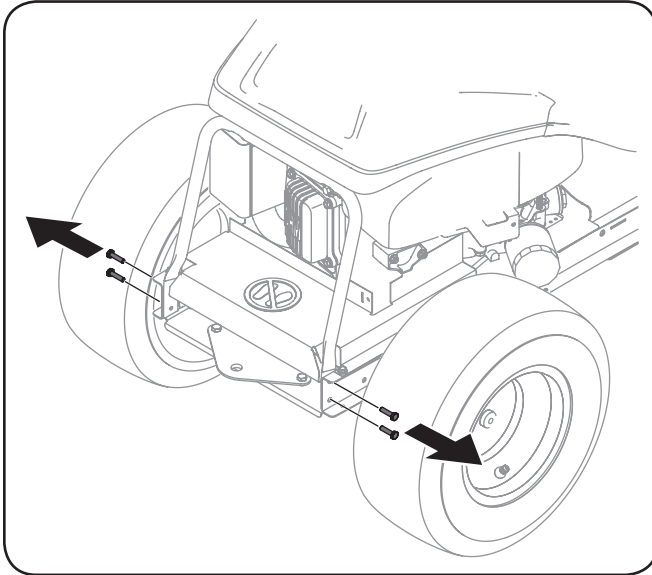

Figure 4-1
1. Remove, and discard, the four self-tap bolts on the rear frame of the tractor, as shown in Figure 4-1.